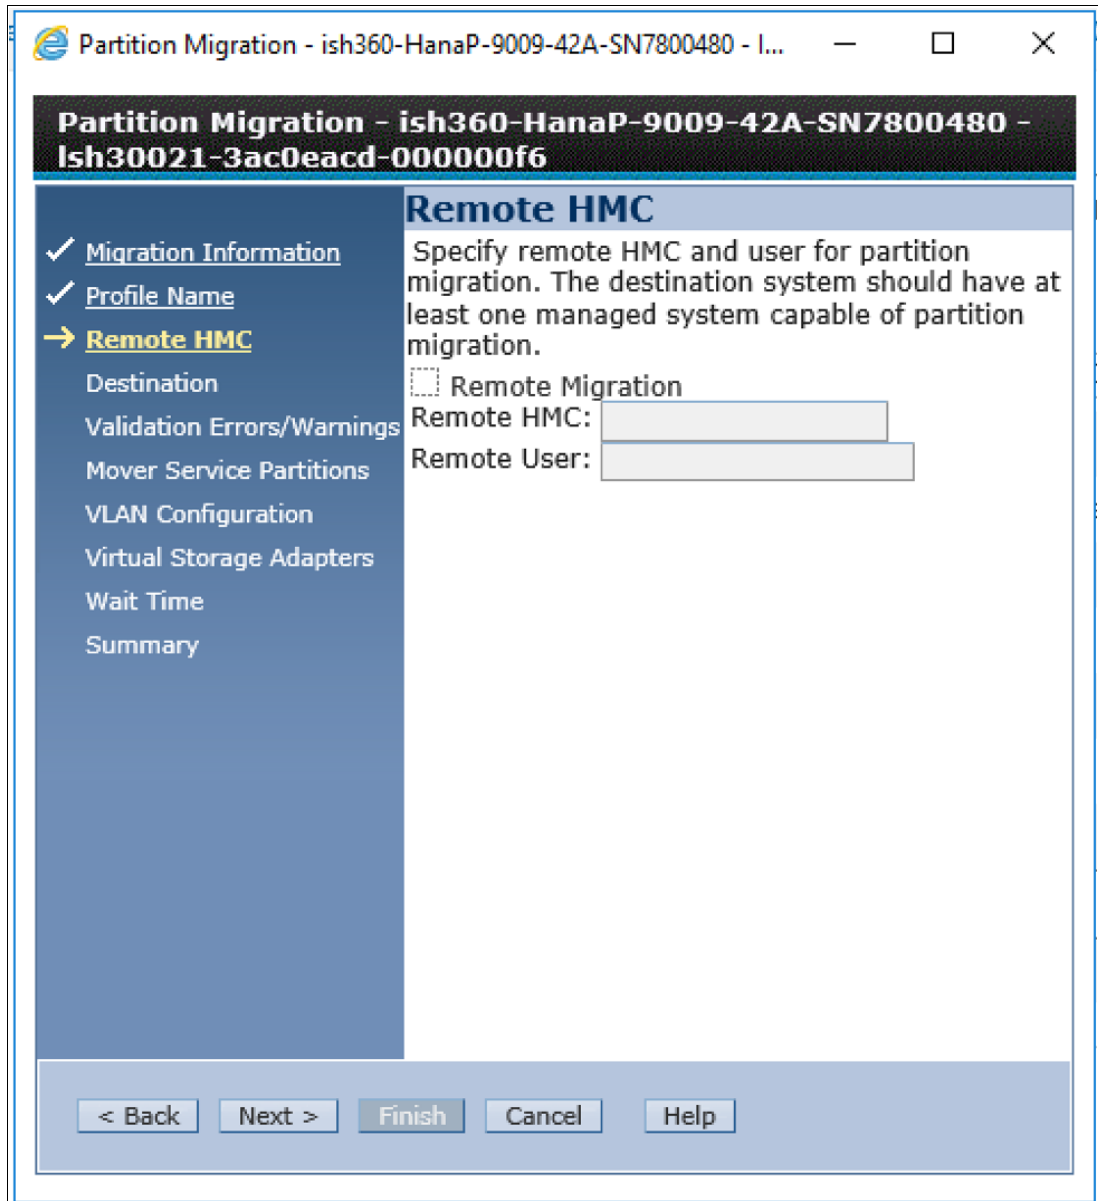

Figure 3-16 Remote HMC window: Specifying the remote HMC and user for partition migration
2. Figure 3-16 shows that one HMC is managing the source and the destination system, so the **Remote Migration** check box in the Remote HMC step stays clear. If the destination system is managed by a different HMC, the destination HMC information must be entered in this step.